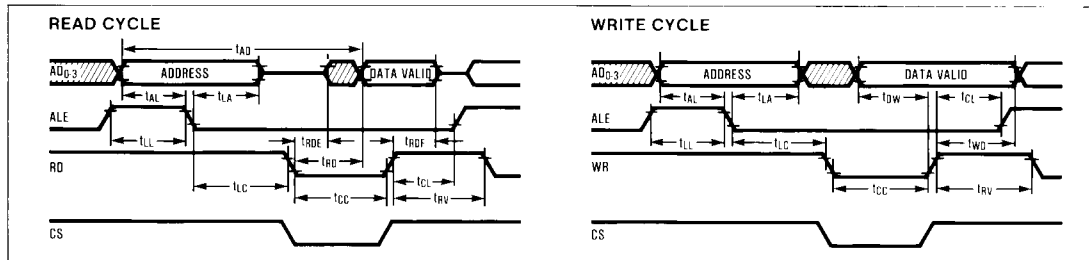

Figure 5. MAX133 Read and Write Sequence
The MAX133 uses only 7 lines to interface with the microprocessor. The microprocessor first selects the register to be read or written to by placing the address of the register onto the 4 bit multiplexed address/data bus. The microprocessor then pulses the Address Latch Enable (ALE) line high to latch the register address into the MAX133. To read the selected register, the microprocessor then drives the Read line low, and the MAX133 places the register data onto the data bus. To write to the selected register the address is latched as described above, then the microprocessor places the data onto the bus and then pulses the Write line low. The MAX133 latches the data into the data into the selected register on the rising edge of Write. See Figure 5. The Chip Select (CS) line must be low to enable either the RD or WR lines, but ALE is not gated by CS .